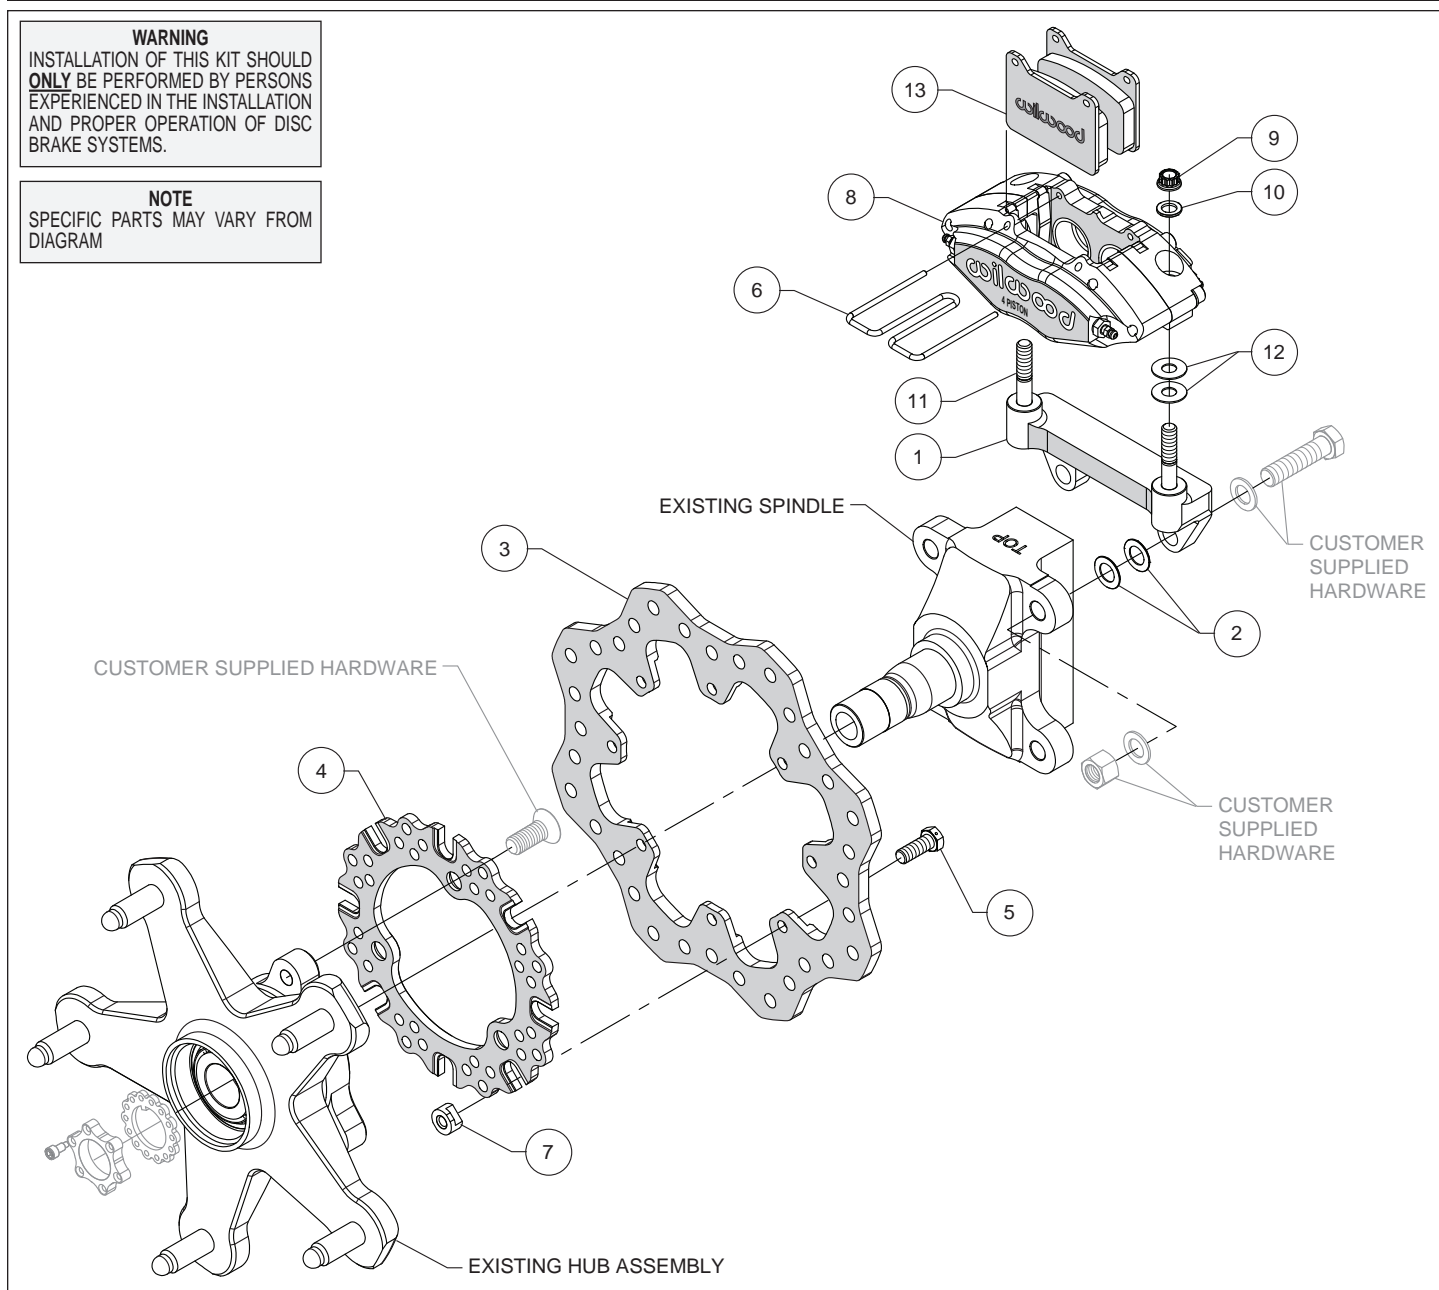

Figure 1. Typical Installation Configuration
Assembly Instructions (numbers in parenthesis refer to the parts list and Figure 1 on the preceding pages):
- The caliper mount bracket (1) should initially be installed with clean, dry threads on the mounting bolts. Orient the bracket as shown in Figure 1, and install using customer supplied hardware. Initially place two .032" thick shims (2) on each bolt between the bracket and upright, Figure 1. Temporarily tighten the mounting bolts. **NOTE:** *The bracket must fit squarely against the mount bosses on the upright.* Inspect for interference from casting irregularities, machining ridges, burrs, etc. Later, after the caliper alignment has been checked, the mount bolts will be secured using red *Loctite*® 271.
- Orient the rotor (3) and rotor adapter (4), as shown in Figure 1, and attach using bolts (5) and t-nuts (7), Figure 1. Using an alternating sequence, apply red *Loctite*® 271 to the bolt threads and torque to 220 **in-lbs**. Please refer to Wilwood's data sheet DS-669 (available at www.wilwood.com/Pdf/DataSheets/ds669.pdf) for complete t-nut bolt kit installation instructions. **NOTE:** *Rotor adapter may be fix mounted to rotor (instead of floating mount) using customer supplied hardware.*
- Install the rotor/adapter assembly to the existing hub using customer supplied hardware, Figure 1. Slide the hub assembly onto the existing spindle and secure using customer supplied hardware.
- Lubricate the caliper mounting studs (11) with lightweight oil. Initially place two .035" thick shims (12) on each stud between the caliper and the bracket, as shown in Figure 1. Mount the caliper (8) onto the bracket (1) using lock nuts (9) and washers (10), Figure 1. Temporarily tighten the lock nuts and view the rotor through the top opening of the caliper. The rotor should be centered in the caliper. If not, adjust by adding or subtracting shims (2) between the bracket and the upright. Always use the same amount of shims on each of the two mounting bolts. Once the caliper alignment is correct, remove the bracket mounting bolts one at a time, apply red *Loctite*® 271 to the threads, and torque to specification.
- Remove the pad clip retainer (14) from the caliper (8). Insert the disc brake pads (13) into the caliper, with the friction material facing the rotor (3), as shown in Figure 1. Check that the top of the brake pad is flush with the outside diameter of the rotor. If not, adjust by adding or subtracting shims (12) between the caliper and the bracket. After the caliper pad height is set, torque caliper lock nuts (9) to 30 ft-lb. Secure the pads in place with the pad clip retainer.